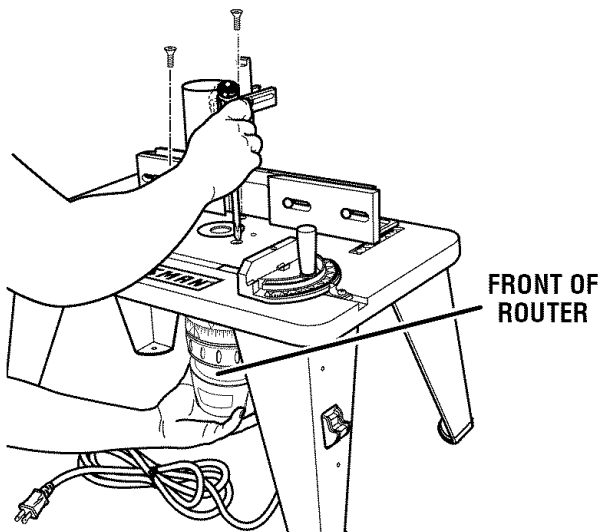

Fig. 10
See Figure 10.
- Holding the router with one hand, securely tighten each of the three screws as shown in figure 10.